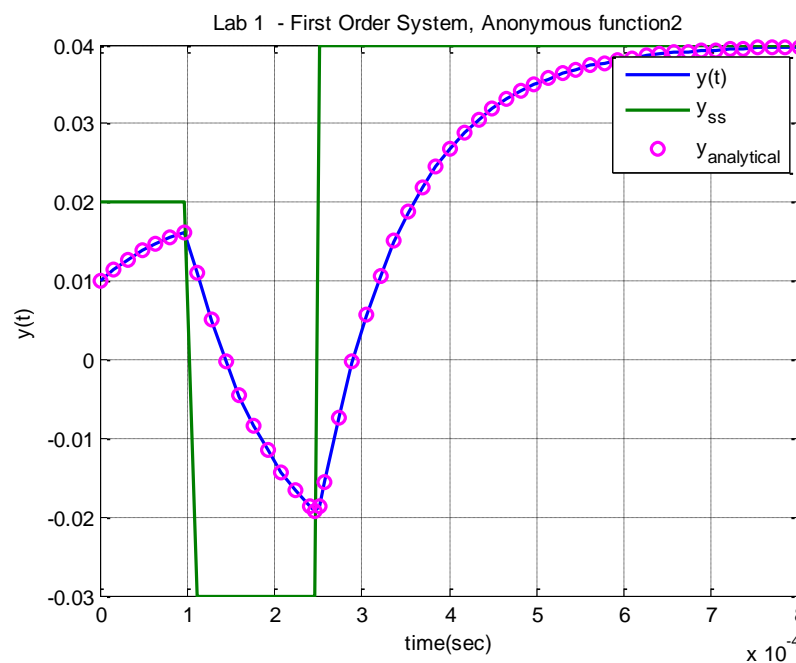

Figure 22: Analytical and Simulate Solution of First Order System
5. If everything worked correctly, you should get the plot in Figure 22, which shows the analytical solution matches the simulated solution. This graph should be included in your lab memo submission.